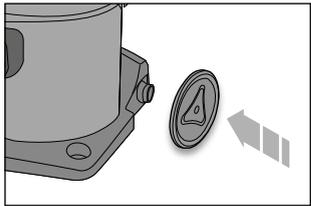

Fig. 2
- Insert the fixed wheels (S) into the special housing on the back of the appliance and secure them by pressing them until you hear them click into place (FIG. 2).